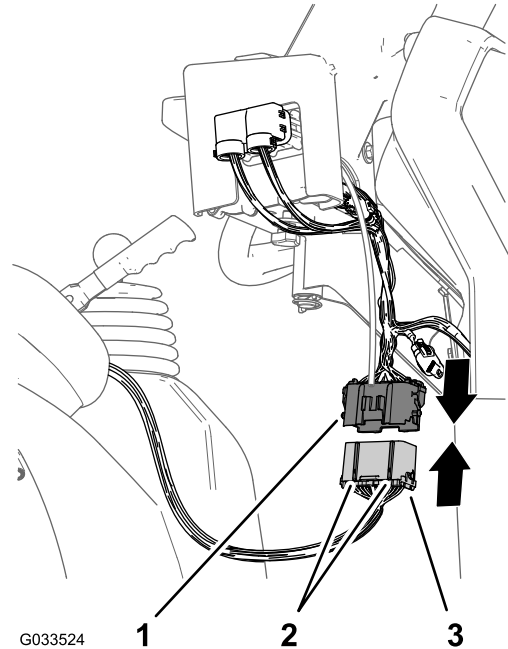

Figure 23
1. Align the 2 keys of the 38-pin connector of the rear wire harness for the sprayer with the 2 keyways of the 38-socket connector of the front wire harness connected to the control console (Figure 23).
2. Plug the rear wire-harness connector into the front wire harness connector until the latches of the connectors snap together securely (Figure 23).